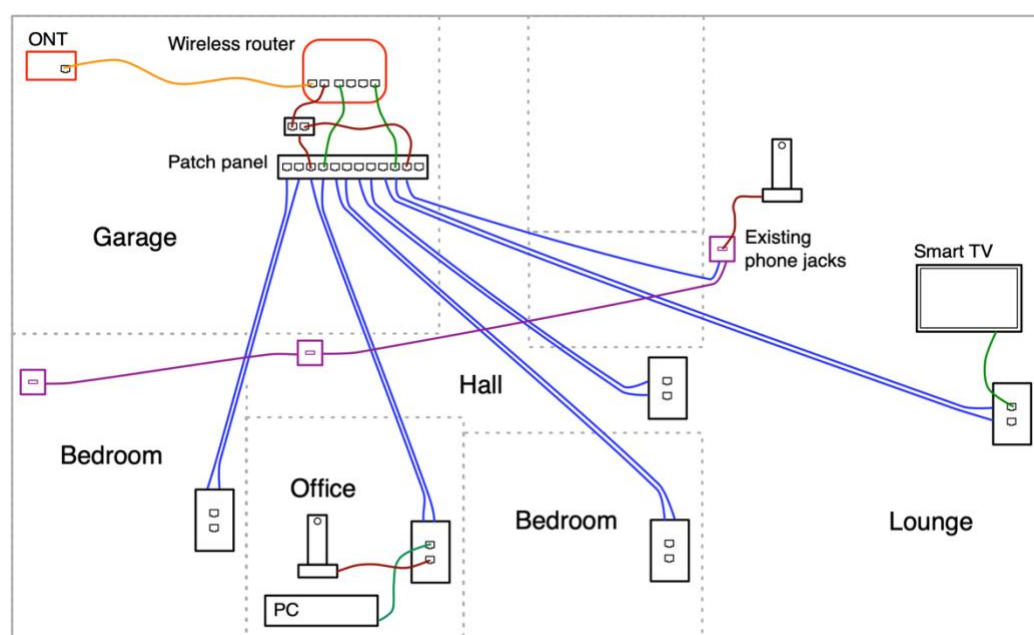

Figure 6 – Two telephones connected to ATA on router, using two port RJ45 splitter
- 6.5. Where an analogue telephone is being hooked up, it doesn't get connected to the ethernet switch. Instead, connect your phone port (on your ISP router, ONT or separate analogue telephone adapter (ATA) device) to the port on the patch panel where your phone is connected. To hook up more than one phone, connect a RJ45 splitter or telephone hub to the phone port, then patch the ports in the hub into the ports on your patch panel which connect to the phones (see Figure 6 below).